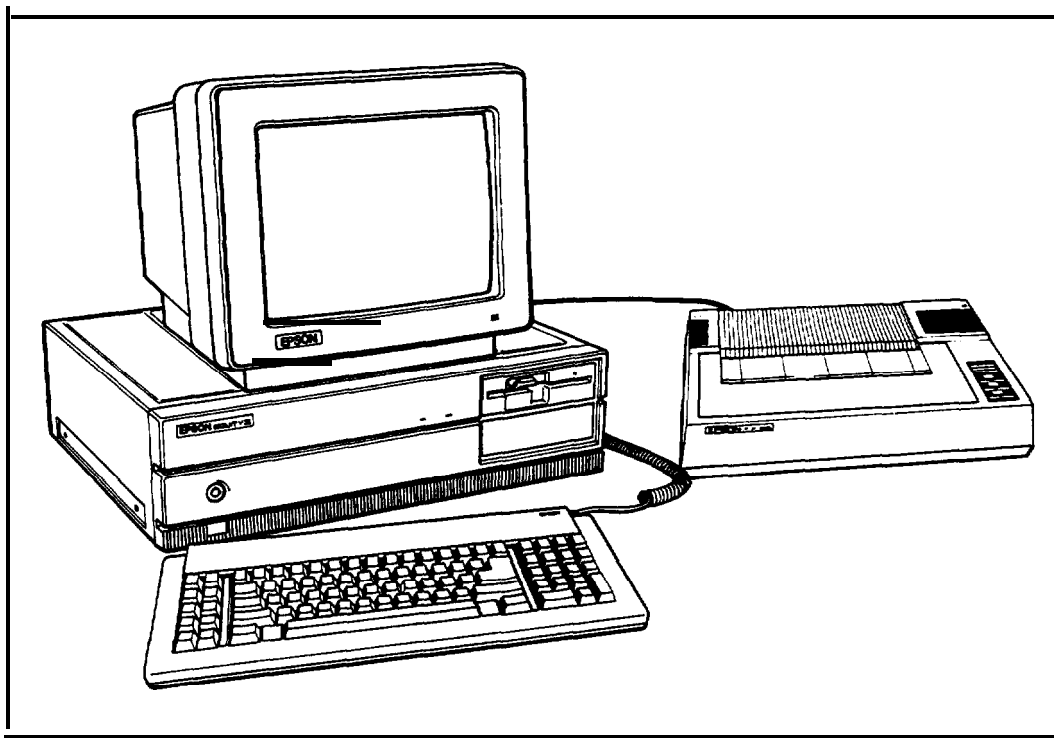

Figure 1-8. Placing the printer
1. Place the printer next to your system, as shown in Figure 1-8.